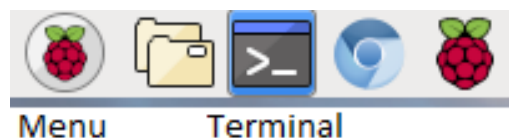

Figure 4: Terminal button
5. After connecting to the internet make sure your Raspberry Pi is up to date with the latest versions of Raspberry Pi OS. To update the system open a terminal by clicking on the terminal symbol in the left upper corner (see figure 4).